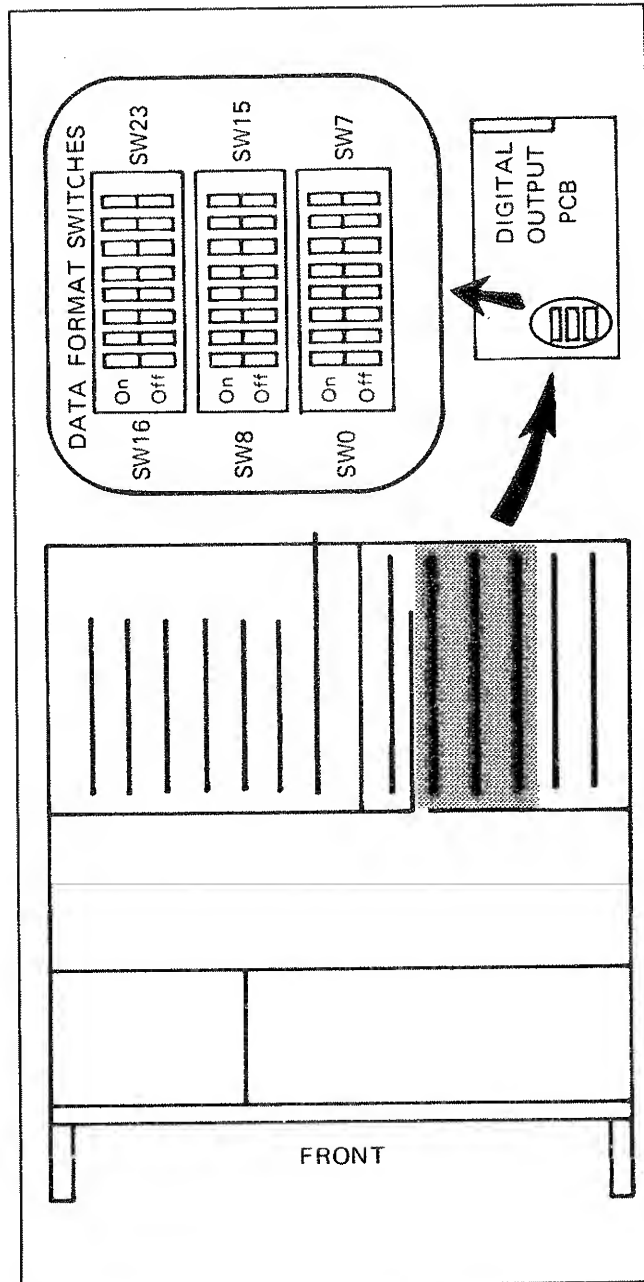

Figure 613-1. Digital Output PCB, Installation and Switch Locations
613-10. Up to three Digital Output PCB's can be mounted in the data loggers I/O slots, as shown in Figure 613-1. Install each output pcb as follows:
3. Locate the Data Format switches on each Digital Output PCB as shown in Figure 613-1.